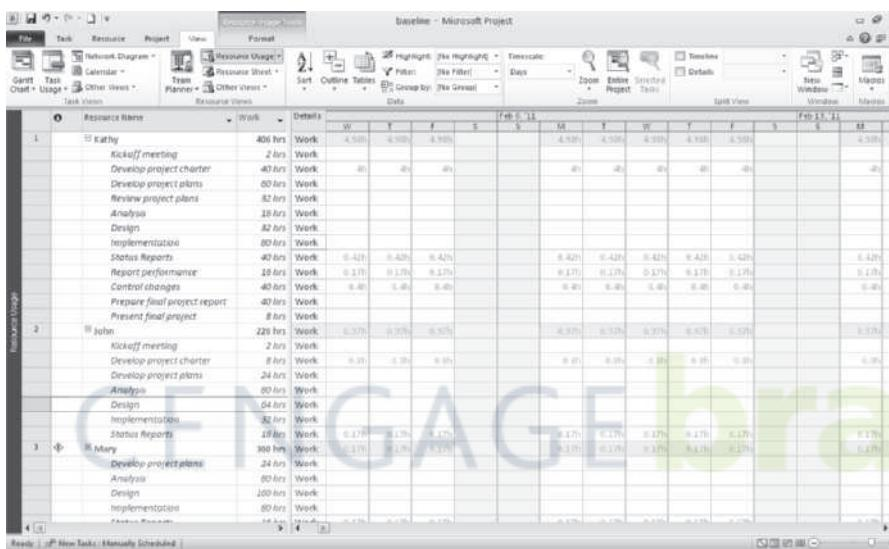

FIGURE A-60 Resource Usage view
2. *Adjust the information displayed.* On the right side of the screen, click the scroll arrows to display the hours Kathy is assigned to work each day. Widen the Resource Name column and make other adjustments as needed so your screen resembles Figure A-60.
3. *Examine overallocation information.* Notice in the Resource Usage view (Figure A-60) that Kathy is only scheduled to work 5.57h on the first day of the project.